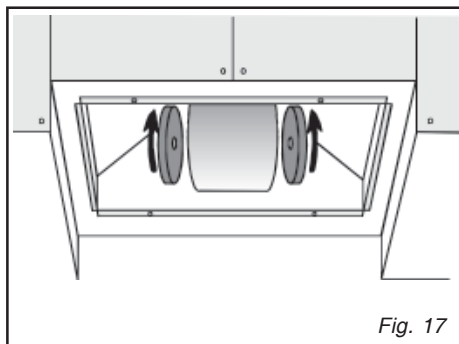

Fig. 17
• Replacing the charcoal filter (Fig.17)
Then remove the charcoal filter (fig. 17):